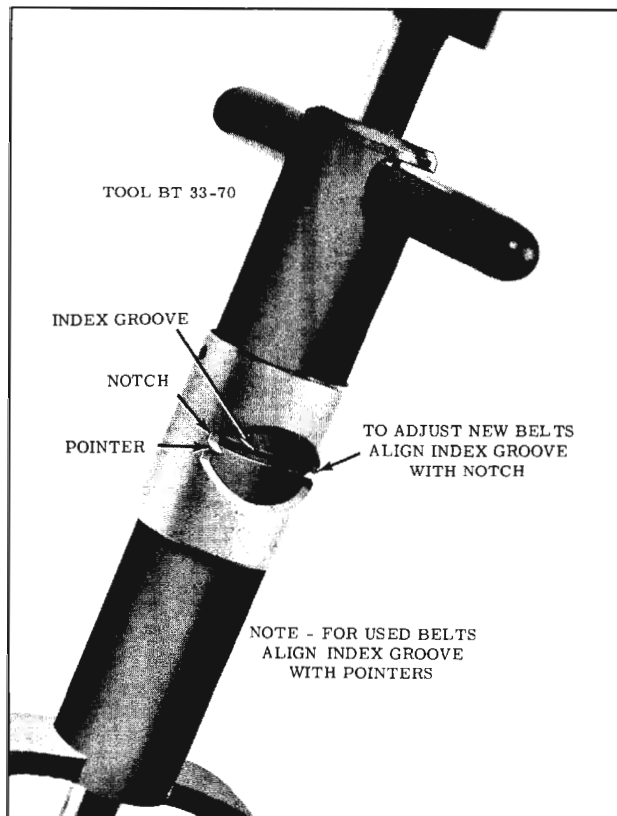

Fig. 15-33 Belt Adjustment
2. Pivot the Delcotron until the belt tension indicated in Figure 15-33 is obtained.